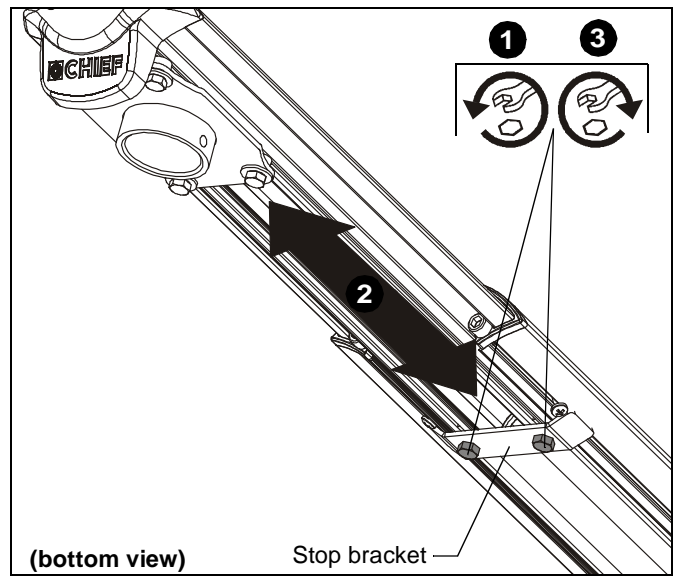

Figure 21
- Loosen two bolts holding stop bracket in place on underside of WMA1S. (See Figure 21)
- Adjust mount to desired extension length. (See Figure 21)
- Tighten two bolts holding stop bracket to secure mount in desired position. (See Figure 21)